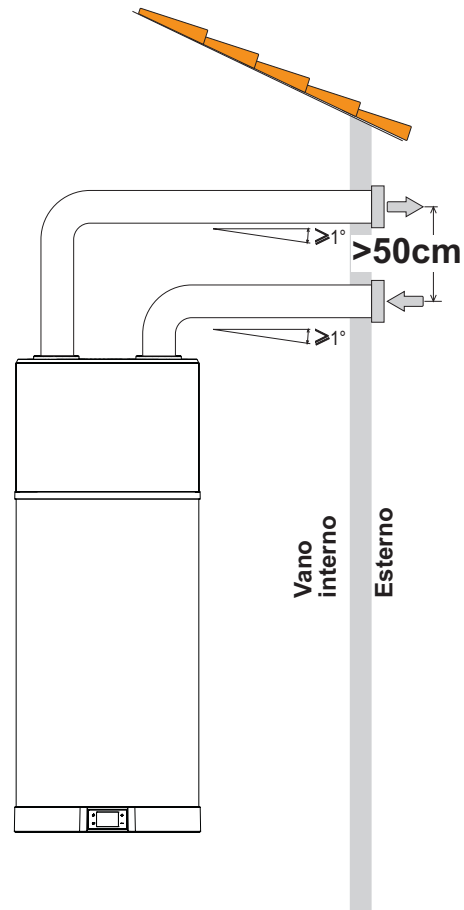

fig. 32- Example of air outlet connection
- Create a dedicated air duct as indicated in fig. 32.